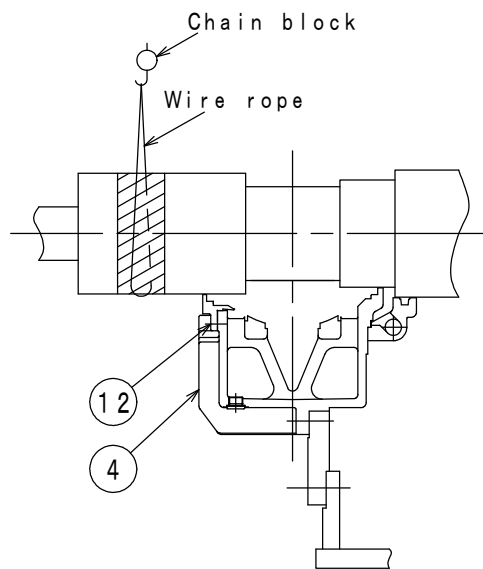

Fig. 11
6.2.7 Disassembly of bearing housing lower half (see Fig. 11)